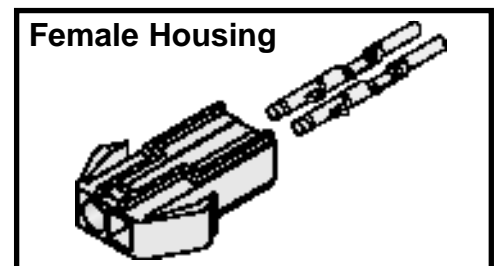

Figure 2
- ☐ Insert the two pin/wire assemblies into the female housing as shown in Figure 2. Pull on the wire to check that the pin is inserted all the way in. It should not pull out of the housing. The locking tabs should be bent outward to hold the pin in the housing.